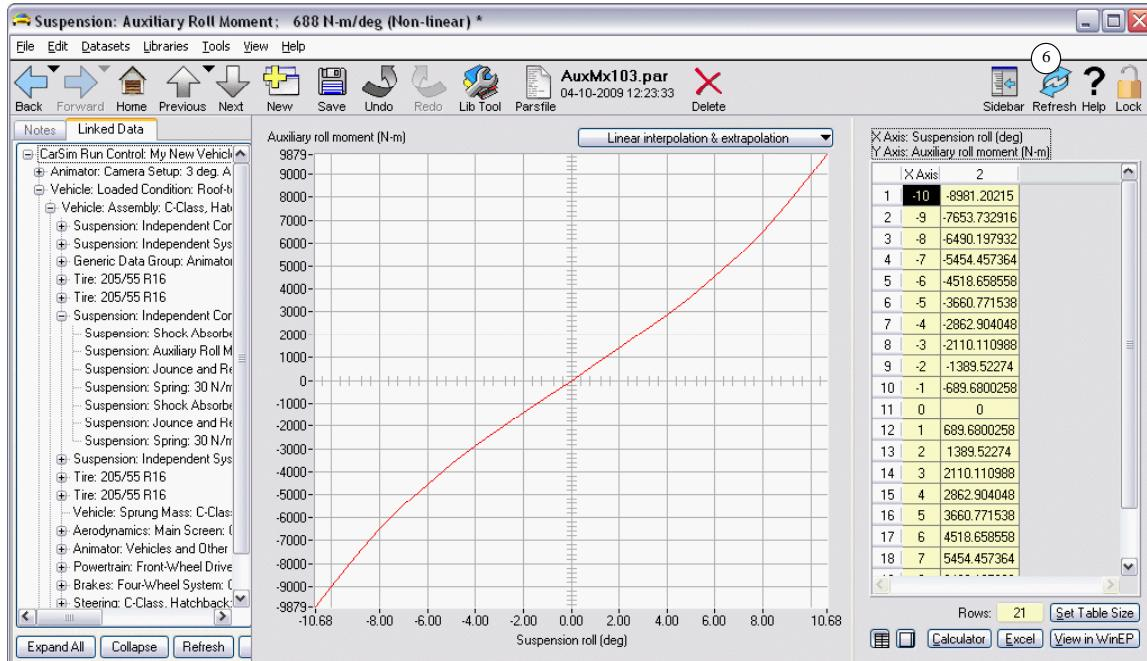

Figure 46. New dataset with doubled roll stiffness.
- Set the drop-down list for the option **Transform existing X and Y values** ①.
- To double the values of the dependent variable, type $2*Y$ as shown ②.
- Click the **Calculate** button ③. You should see an immediate change in the graphic in the data window in the background.
- Notice that there is a **Help** button ④. Later on, you can use this to view documentation that describes more of the capabilities of this calculator.
- g. Click the **Close** button ⑤. Click the **Refresh** button ⑥ on the data screen to force a refresh of the plotted data (Figure 46).